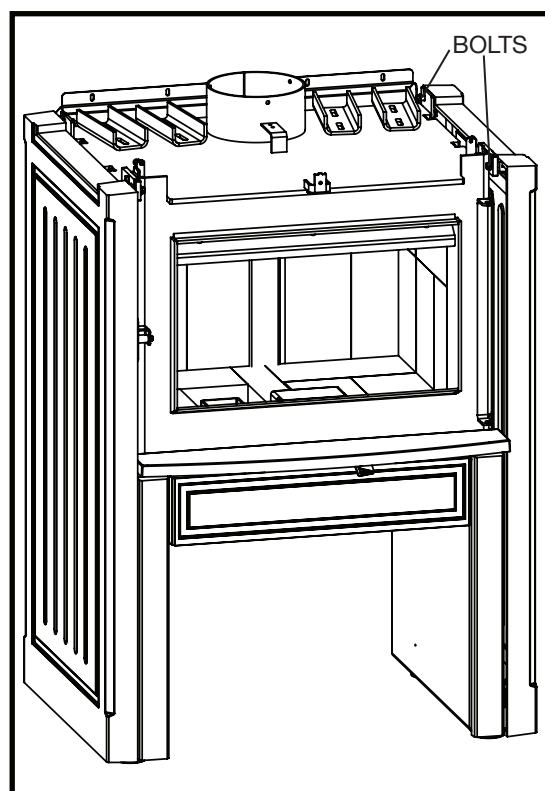

Figure 5: Side panel removal.
5. While supporting the side panel, remove the two bolts securing the top of the side panel to the unit (Figure 5).